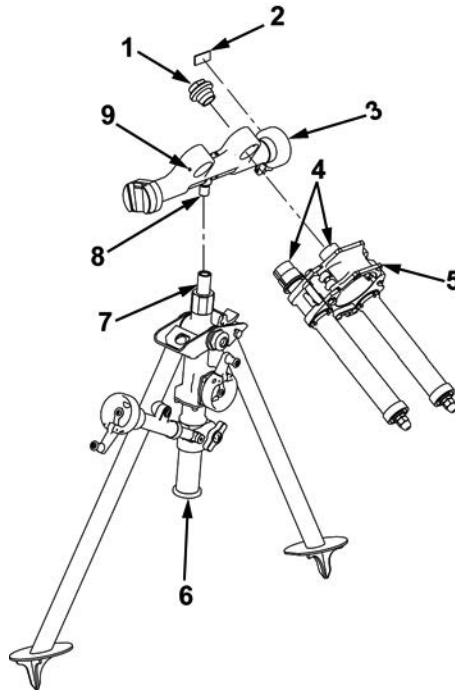

Figure 4. Assembly of Traversing Mechanism and Recoil Mechanism Buffer.
13. If label was removed, apply adhesive to new IUID label (Figure 4, Item 2) and place on traversing mechanism (Figure 4, Item 3). When adhesive is dry, apply protective clear coat to label.
14. Fully extend elevation shaft assembly (Figure 4, Item 7) and secure in vise.
15. Thread flange tee (Figure 4, Item 8) into elevation shaft assembly (Figure 4, Item 7). Tighten firmly by hand.
16. Fully extend two recoil mechanisms (Figure 4, Item 4). Ensure that groove in each recoil mechanism aligns with headless straight pin (Figure 4, Item 9) in traversing mechanism (Figure 4, Item 3).
17. Apply sealing compound (WP 0032, Item 22) to threads of two recoil endcaps (Figure 4, Item 1).
18. Install recoil mechanism buffer (Figure 4, Item 5) to traversing mechanism (Figure 4, Item 3) and install two recoil endcaps (Figure 4, Item 1). Ensure that recoil mechanism buffer aligns with hand crank on elevation housing assembly (Figure 4, Item 6).